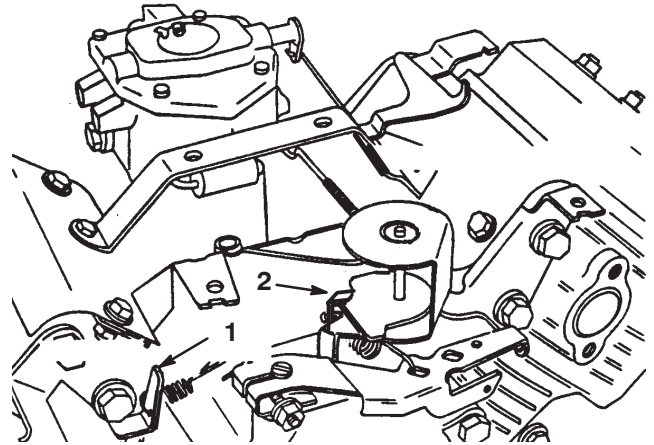

Figure 38
3. Bend the governed idle spring anchor tang (Fig. 38) to attain an idle speed of 1625 ± 50 rpm. Check the speed with a tachometer.
5. Move the throttle control to the Fast position. Bend the high speed spring anchor tang (Fig. 38) to attain a high speed of 2850 ± 50 rpm.